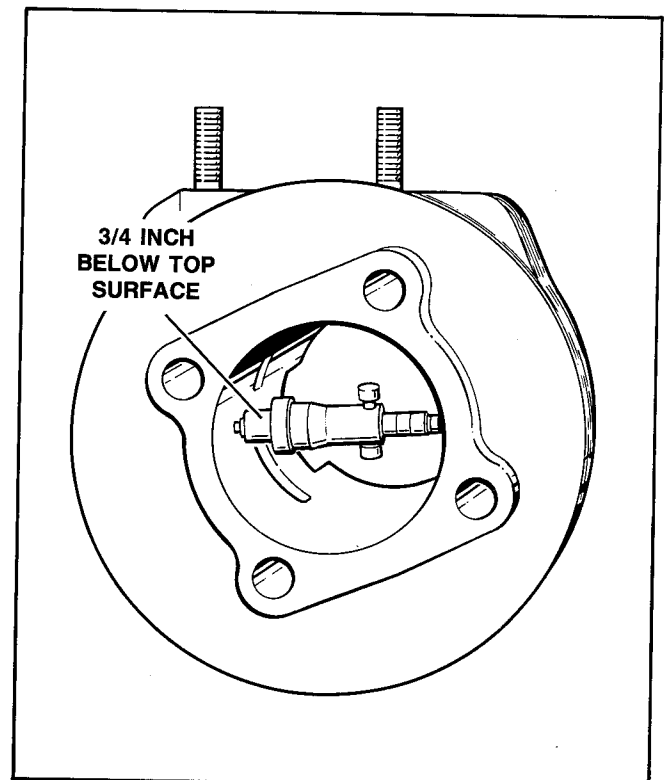

Figure 7-8 - Cylinder Bore Measurement
- See Figure 7-8. Take cylinder bore measurement 3/4 in. from top of bore, measuring from front to rear, then left to right. Record the measurements.